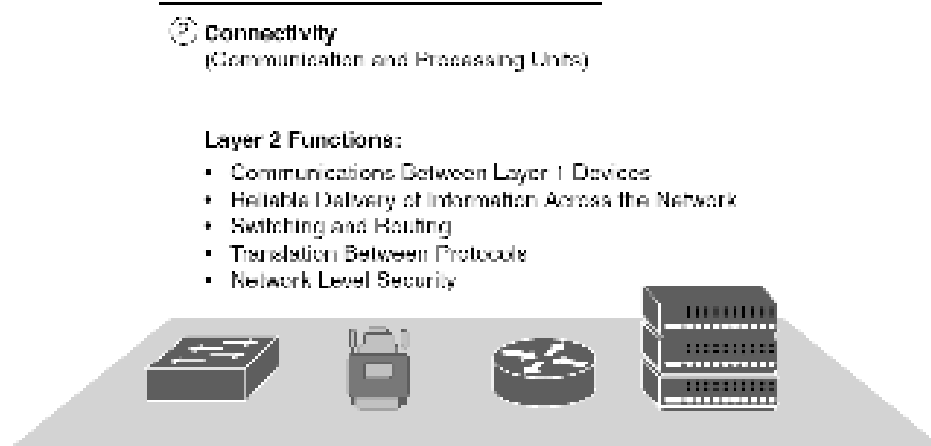

Figure 1.15: IoT Reference Model Connectivity Layer Functions
- **Figure 1.15** illustrates the simplified IoT model presented in this book.